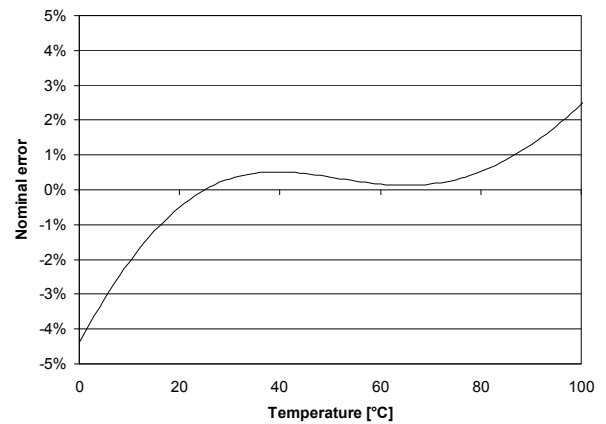

Figure 6 Nominal error vs. Temperature
The resistance of the network above at 25°C, R_T(25), is 37.58kΩ. Over temperature R_T(T) is multiplied by copper resistance, DCR(25) · (1 + (T - 25) · 0.0039), divided by (DCR(25) · (R_T(25))) to normalize the results, and plotted as nominal error in Figure 6.